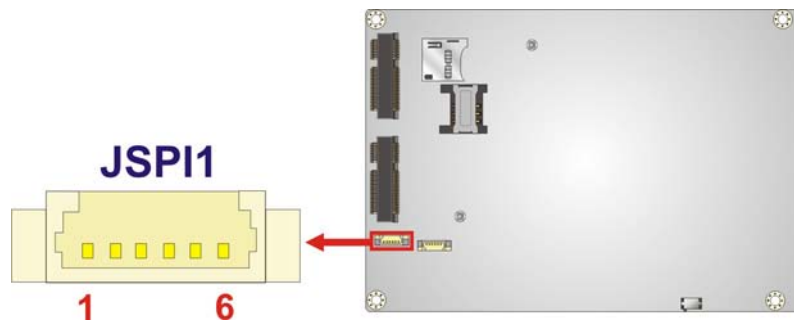

Figure 3-27: SPI Flash Connector Location
- CN Location: See **Figure 3-27**